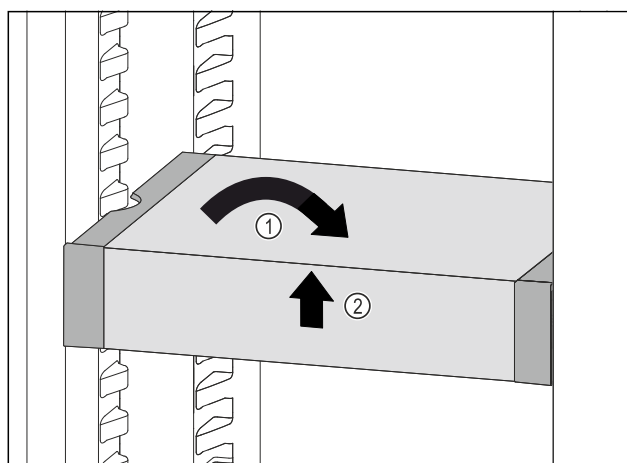

Fig. 107
- Set VarioSafe straight. Fig. 107 (1)
- Lift VarioSafe at the front. Fig. 107 (2)